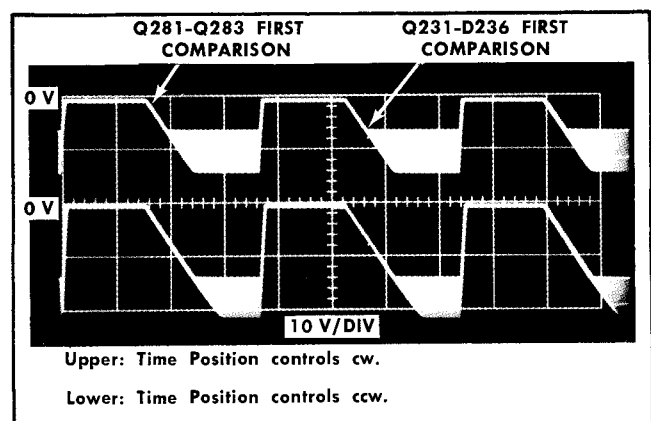

Fig. 4-11. Slewing ramp signal at Q254 collector, D236 anode. (Double exposure.)
Fig. 4-11 shows a double exposure of two slewing ramp waveforms, showing the comparison points for the first sample of a sweep. As shown in the illustration, the Type 3T2 is operating at  $1\text{ }\mu\text{s}/\text{DIV}$  ( $10\text{ }\mu\text{s}$  RANGE and  $\times 1$  TIME MAG-
NIFIER), and the exposures were made first with the TIME POSITION controls fully clockwise then fully counterclockwise. Each exposure is a time exposure of sufficient time to show all the stopped slewing ramp voltage values for one sweep. Comparing Fig. 4-11 with waveform (O) of Fig. 2-7 may aid in understanding the time window movement action caused by rotation of the TIME POSITION control.